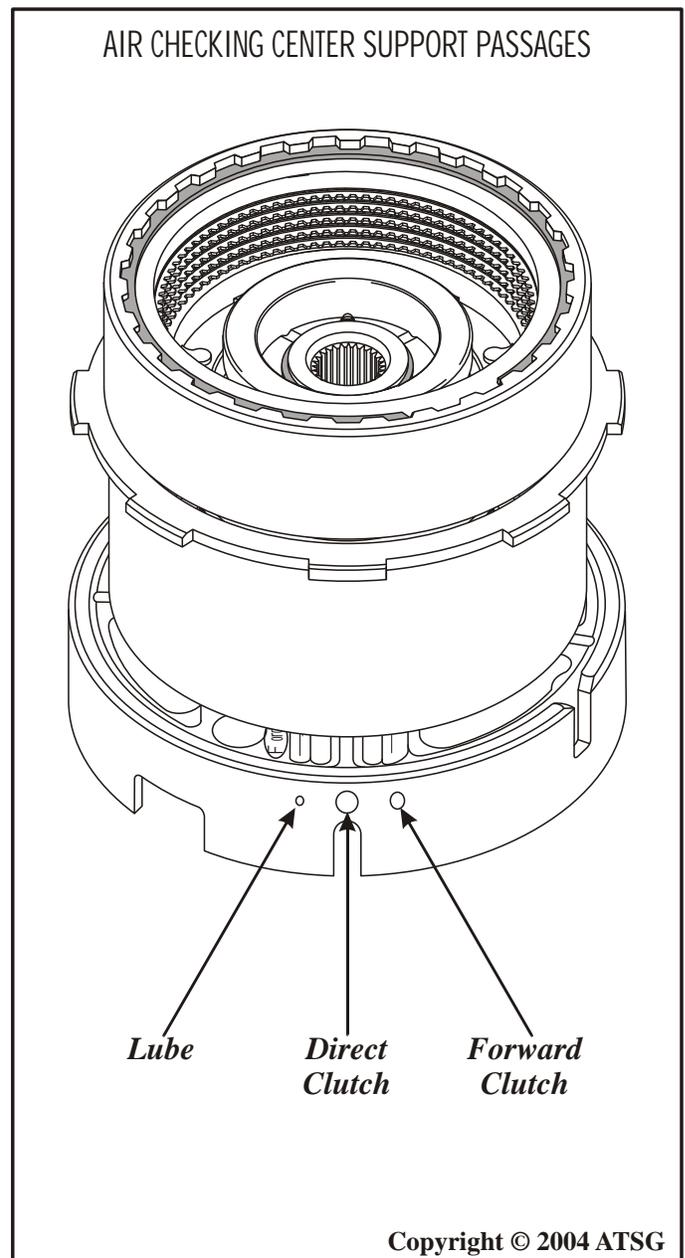

Figure 96
6. The **only positive way** to verify the integrity of the center support, is to assemble the forward and direct clutch housings, with the appropriate thrust bearings, onto the support, as shown in Figure 96.